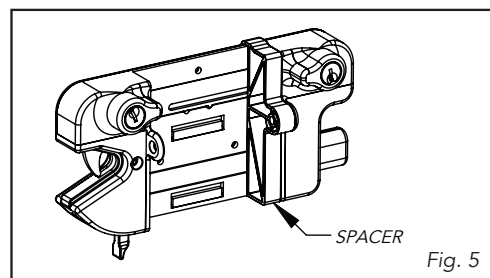
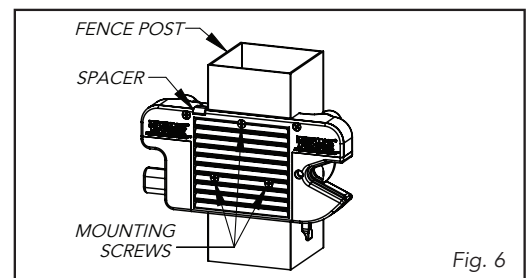

Fig. 5
Fig. 6
Use one latch spacer behind the button side of the latch (Fig. 5). Hold the latch and spacer at the desired height on the fence post. Install (3) flat head screws into the side of the
latch (Fig. 6). Install (1) 1.5" flat head screw into button side of housing (Fig. 7). Install (1) flat head screw into latch side of housing (Fig. 8).
Use one latch spacer behind the button side of the latch (Fig. 5). Hold the latch and spacer at the desired height on the fence post. Install (3) flat head screws into the side of the latch (Fig. 6). Install (1) 1.5" flat head screw into button side of housing (Fig. 7). Install (1) flat head screw into latch side of housing (Fig. 8).